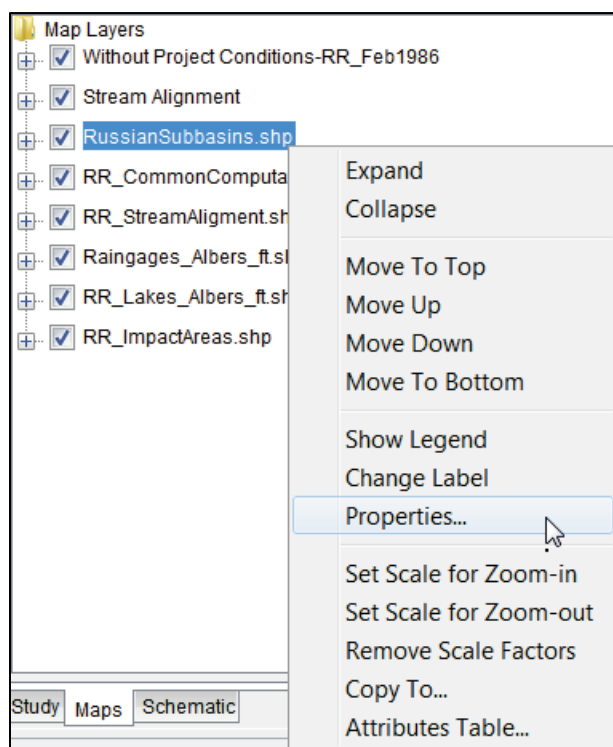

Figure D.1 Maps Tab – Content Pane
The user can access the map layer editors, from the **Maps Tab** (Chapter 3, Section 3.2), which provides a view of the active map window in the **Desktop Pane** (Chapter 3, Section 3.1). From the **Content Pane** (Figure D.1), either double-click on a map layer name, or right-click, and from the shortcut menu click **Properties**. An editor specific to the type of map layer selected will open.
1. With an active map window displayed in the **Desktop Pane**, from the **Maps Tab**, from the **Content Pane** (Figure D.1), right-click on a shapefile that the user knows is a line shapefile. From the shortcut menu click **Properties** or double-click on the shapefile filename. For example, in Figure D.1, from the **Map Layers** tree, the user right-clicked on *RR\_StreamAlignment.shp* which is a line shapefile.
1. With an active map window displayed in the **Desktop Pane**, from the **Maps Tab**, from the **Content Pane** (Figure D.1), right-click on a shapefile that the user knows is a polygon shapefile. From the shortcut menu click **Properties** or double-click on the shapefile filename. For example, in Figure D.1, the user would right-click on *RussianSubbasins.shp* which is a polygon shapefile.
18. If the user wishes to save any changes made to the selected shapefile, from the **File** menu, click **Save Study**. Changes are saved to a file with the extension *.gdr*. For example, in Figure D.1, the shapefile name is *RussianSubbasins.shp*, if changes have been made and saved, a file *RussianSubbasins.gdr* will be created.